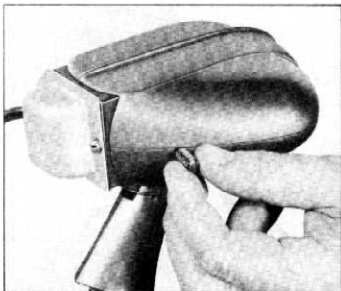

Fig. 71—Adjusting Phototube Unit Sensitivity Control
10. Rotate Phototube Unit Sensitivity Control counterclockwise to end of adjustment using a special $\frac{1}{16}$ " screwdriver provided in Tester (fig. 71).